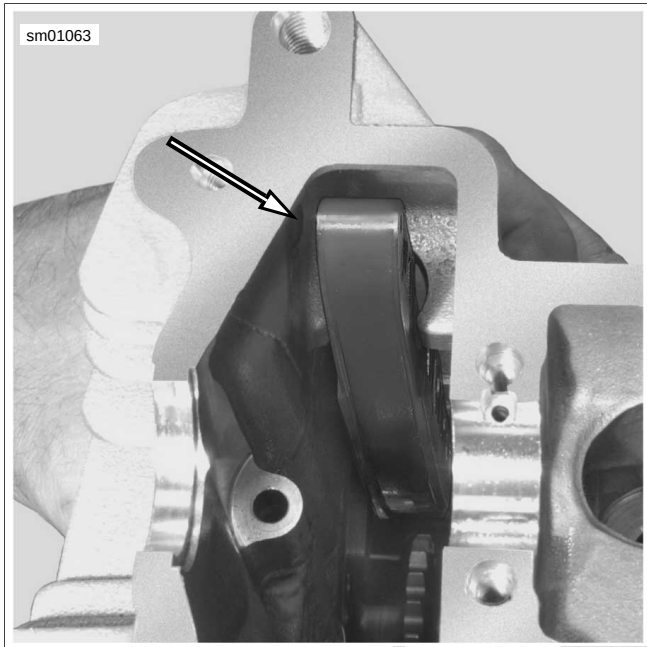

Figure 3-81. Tensioner Guide Position in Cylinder Head
2. See Figure 3-81. Make sure tensioner guide is locked in head as shown.